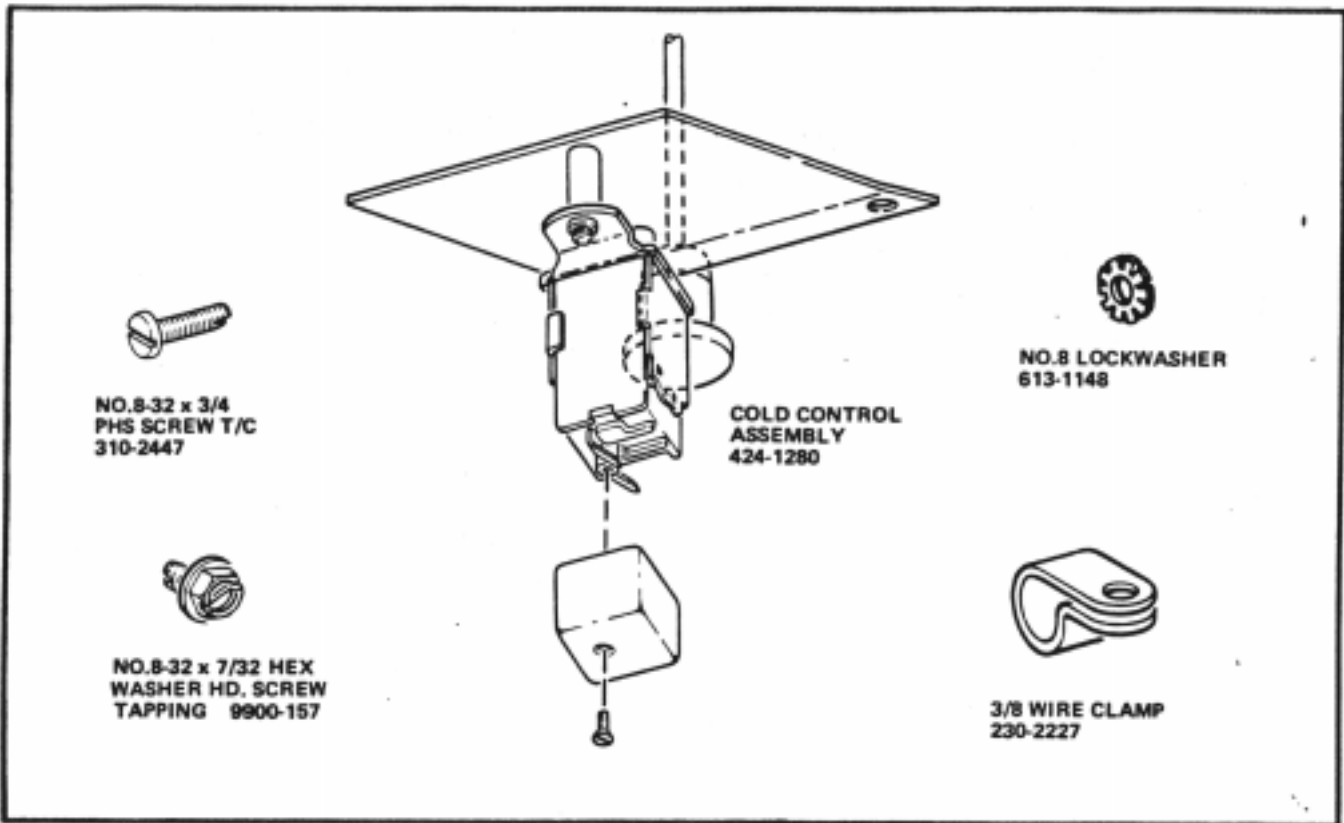

FIGURE 1
CHECK THE PARTS RECEIVED IN THE KIT WITH THE PARTS LIST IN THESE INSTRUCTIONS. FIGURE 1 SHOWS ALL THE PARTS IN THE KIT. IF ANY PARTS ARE MISSING, CONTACT NATIONAL VENDORS' PARTS DEPARTMENT IMMEDIATELY.
1. Remove one attaching Screw and the Terminal Cover from the Cold Control Assembly included in the kit, part number 424-1280, as shown in Figure 1.